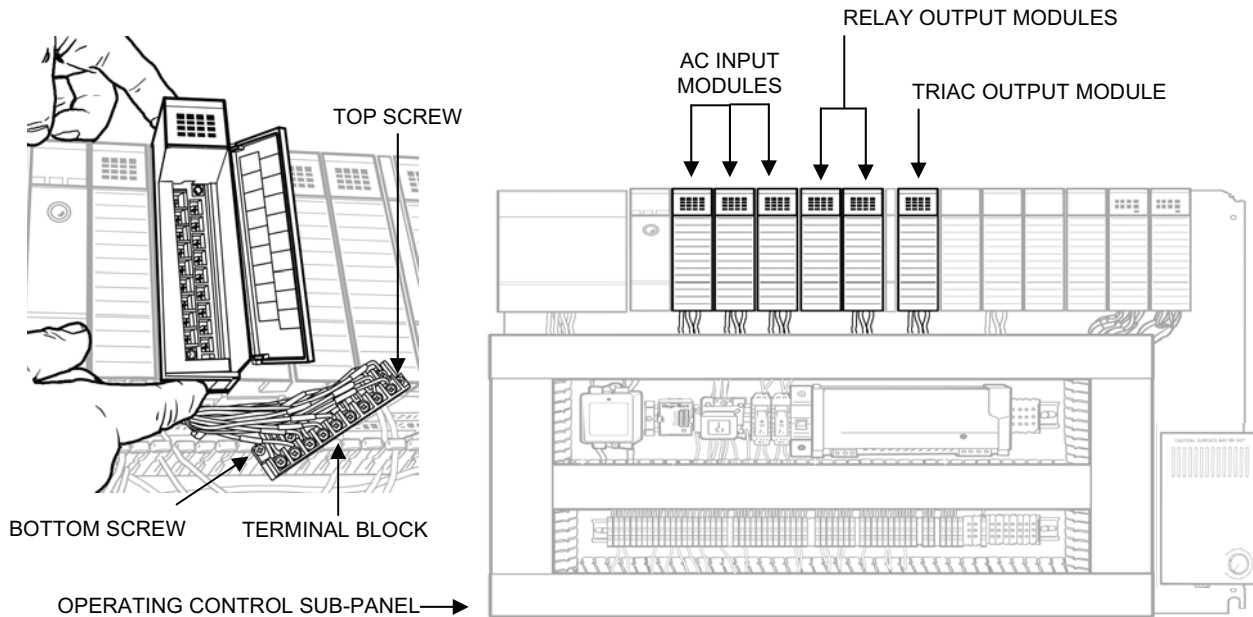

Figure 4. AC Input Module, Relay Output Module, or Triac Output Module Replacement.
3. Remove AC input module, relay output module, or triac output module as follows (see Figure 4):